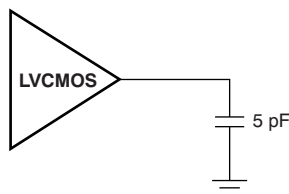
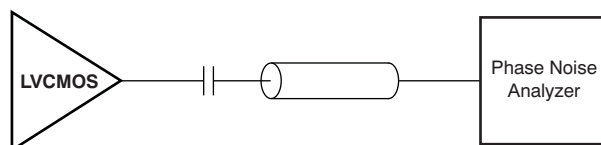
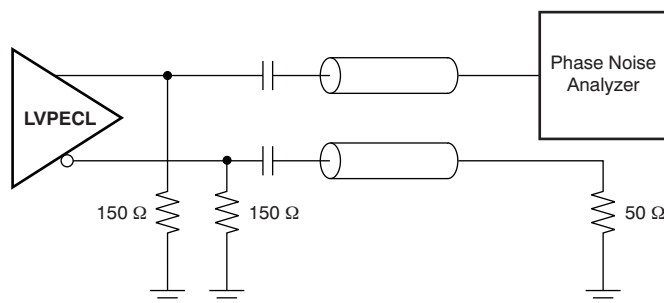
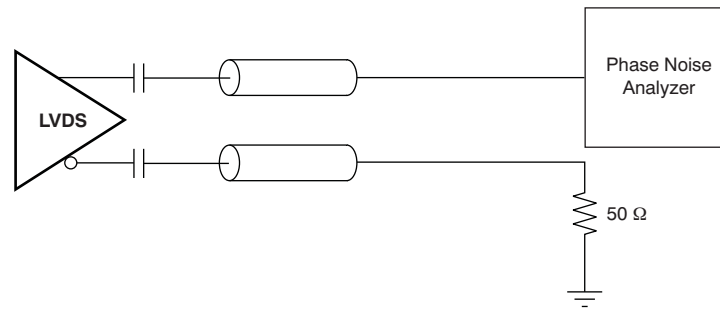

Figure 7. LVC MOS Output Loading During Device Test
Figure 8. LVC MOS AC Configuration During Device Test
Figure 10. LVPECL AC Configuration During Device Test
Figure 12. LVDS AC Configuration During Device Test
(1) Figure 7 and Figure 8 show DC and AC test setups, respectively. Jitter measurements made using 25-MHz quartz crystal inches.
250-MHz LVCMOS OUTPUT⁽¹⁾ (See Figure 8)
625-MHz LVPECL OUTPUT⁽²⁾ (See Figure 10)
625-MHz LVDS OUTPUT⁽³⁾ (See Figure 12)
(1) Figure 8 shows test setup and uses 25-MHz quartz crystal in, V_{CC} = 3.3 V, and T_A = 25°C.
(2) Figure 10 shows test setup and uses 25-MHz quartz crystal in, V_{CC} = 3.3 V, and T_A = 25°C.
(3) Figure 12 shows test setup and uses 25-MHz quartz crystal in, V_{CC} = 3.3 V, and T_A = 25°C.
- (1) Figure 8, Figure 10, and Figure 12 show LVCMOS, LVPECL, and LVDS test setups (respectively) using appropriate quartz crystal in, V_{CC} = 3.3 V, and T_A = 25°C.
This section describes the function of each block for the CDCM61004. Figure 7 through Figure 13 illustrate how the device should be set up for a variety of output configurations.